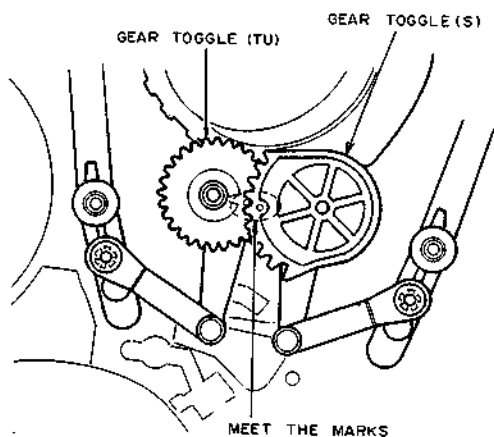

Fig. 4-12
8) Set the GEAR TOGGLE (TU) and (S) to the unloaded position with your fingers. At this time meet the marks of the GEAR TOGGLE (TU) and (S) as shown in Fig. 4-12.